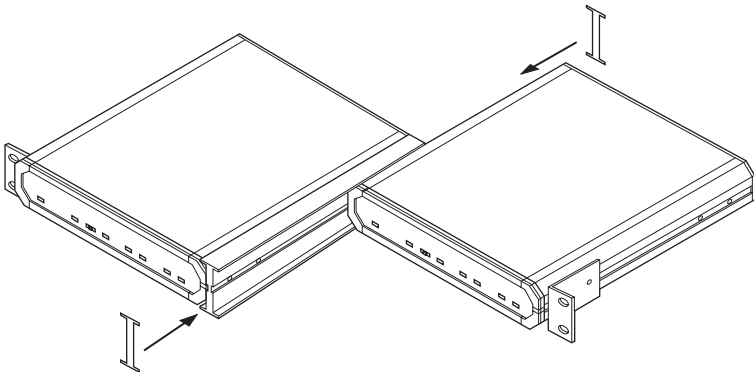

Figure 3-4. Installation of Two Units in a 19" Rack (b).
3. Slide one unit side rail within the other, so as to fasten the two units together (refer to **Figure 3-4**).